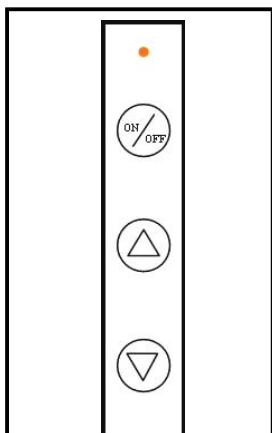

FIG. 2
4. Wait five (5) minutes to clear out any gas. Then smell for gas including near the floor. If you smell gas, STOP! Follow "B" in the safety information above. If you don't smell gas, proceed to step 5 or 6.
6. If you are using the Manual Control Panel, push the ON/OFF (top) button on the Manual Control Panel (See Fig. 2) An audible signal confirms the start sequence has begun; release button.